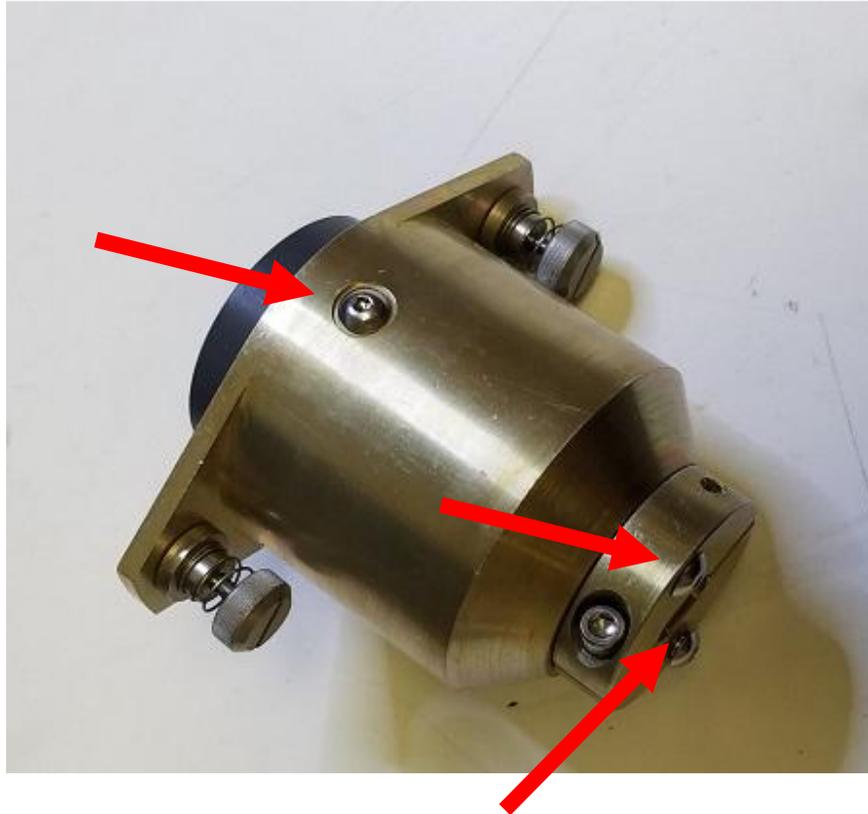

Figure 71 – Plasma Module – Gold Plug Screw Location
m. Using a 5/64" allen key remove the 3 button head screws (shown by red arrows above in *Figure 71*) on the new Plasma Generator's gold plug so it looks like below (*Figure 72*):